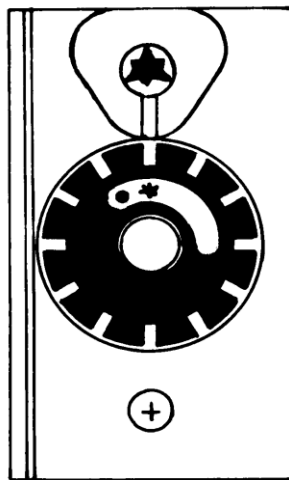

Fig.2
- Turn the regulating button from the position “closed” to the position “star” (see Fig.2).